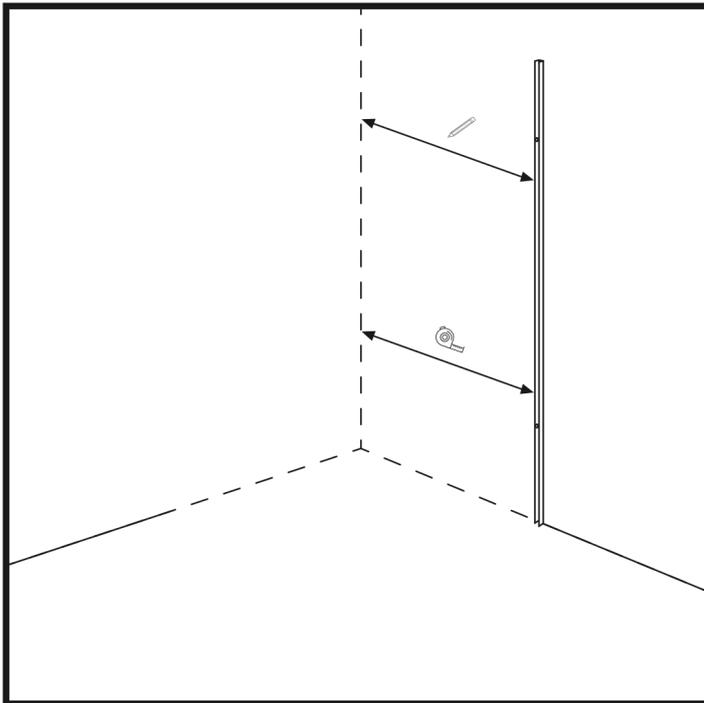

Figure 1
2. Measure the distance of the hinge bar profile from the parallel wall according to the planned shower enclosure and make a mark. (Figure 1)